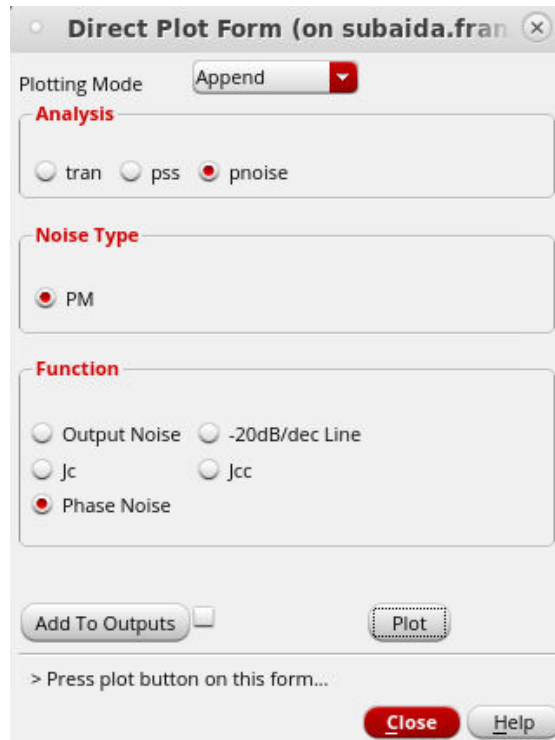

Fig. 7
- From Results/Direct Plot/pnoise, plot "Phase Noise" in dBc/Hz (Fig. 7). Give an estimate of the flicker corner frequency.